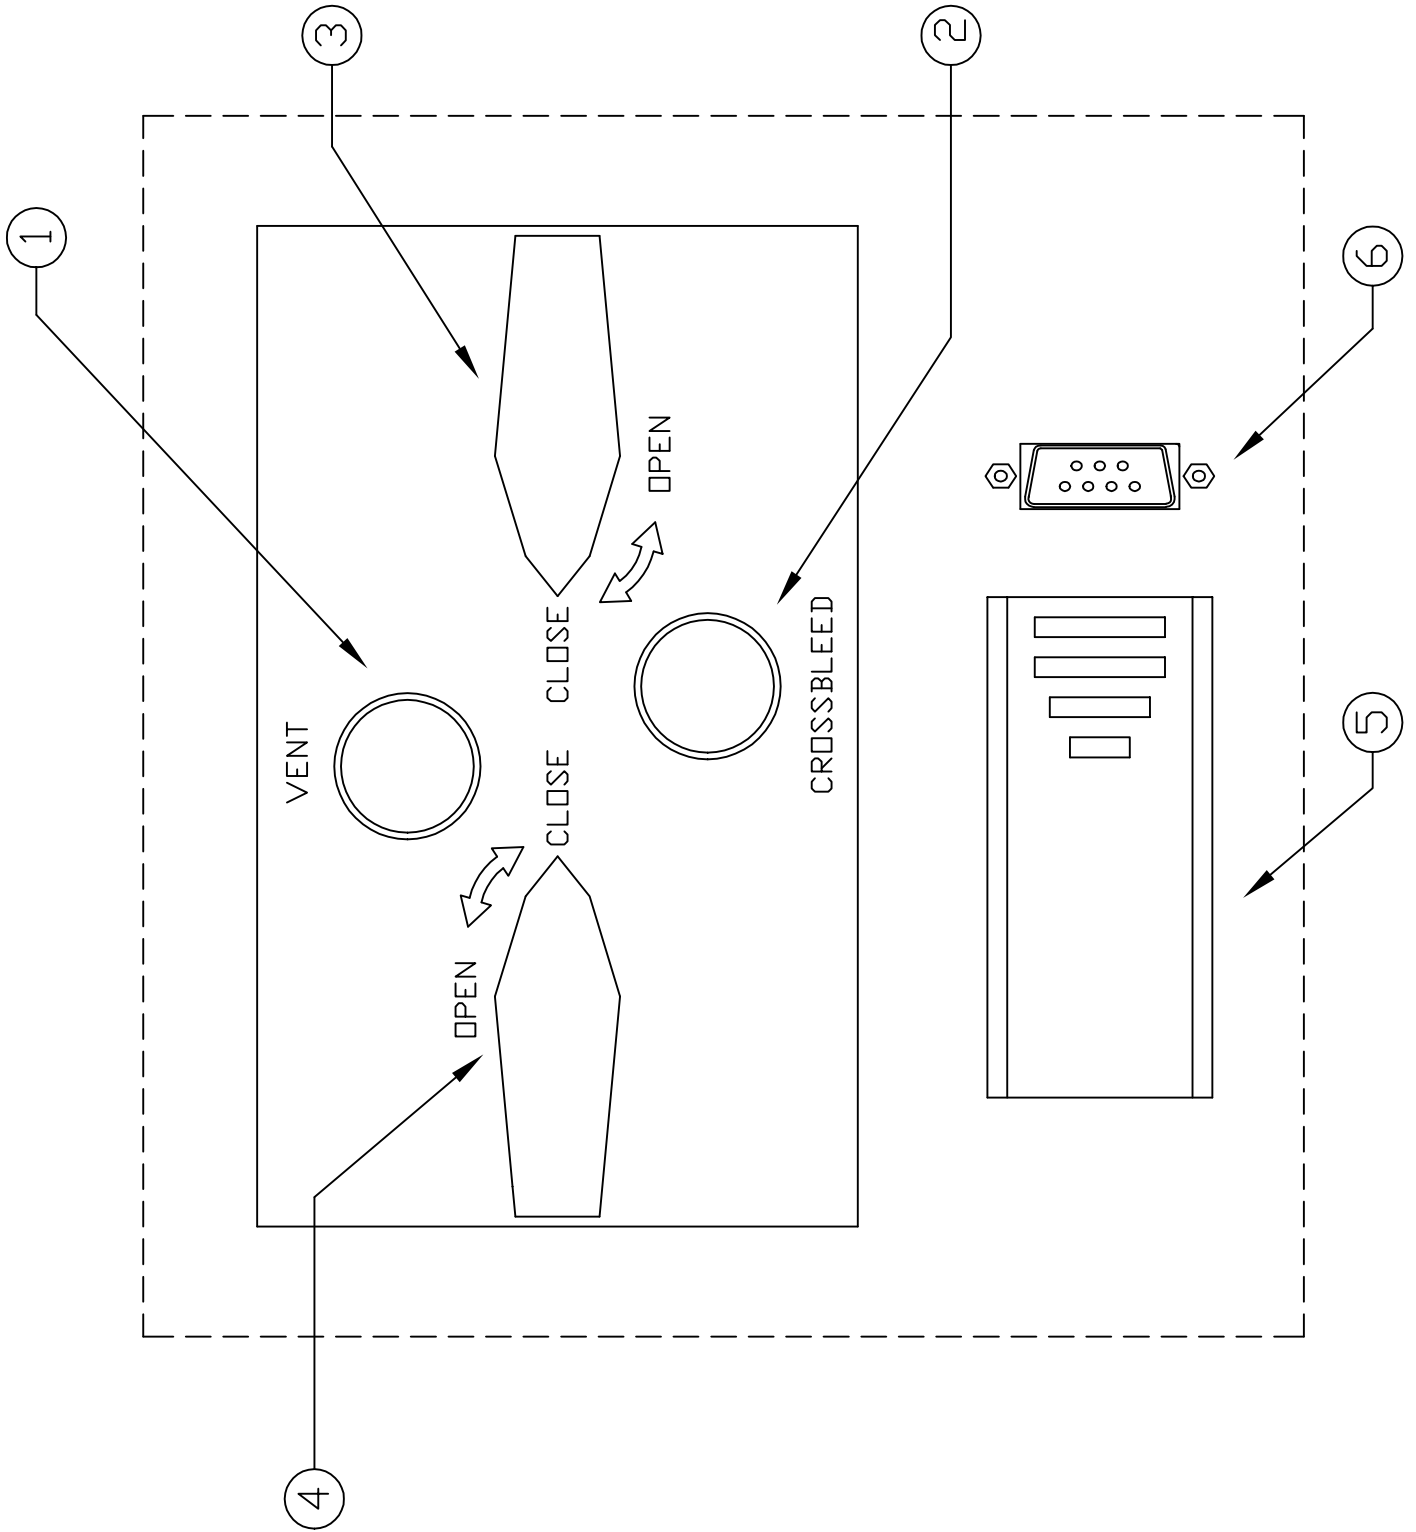

Figure 2.2
The 9 volt battery is accessed by opening the access panel. This battery is used to enable the functioning of the On/Off switch on the Remote unit. If this battery does not have adequate charge, the Remote unit On/Off switch will not operate. This is a 9 volt alkaline battery. It must be replaced once a year during the Calibration operation. The battery must be replaced without power applied to the 6300. Figure 2.2 shows the battery holder (5) with the panel open.
This connector is accessed by opening the access panel. The connector is a standard DB-9 female connector used for a serial RS232 interface. It can be connected directly to the "COM" port of a standard PC to allow communication. This port is normally used for downloading "profiles" from a computer. Other remote communication with the 6300 is also possible through this interface. Figure 2.2 shows the RS232 connector (6) with the panel removed. For more details on downloading profiles, please refer to Section 4. For more details on communication with the 6300, please refer to Section 8.
In the event that the 6300 is in-operable due to a malfunction or due to loss of power, it is possible to vent the Pitot/ Static system manually. Venting implies bringing the pressure on both the Pitot and Static ports back to the ambient pressure. The controls for manual venting are accessible underneath the access panel labeled "Manual Vent". Once the access panel is opened, the controls available for venting are shown in Figure 2.2. The Venting system consists of "Crossbleed" (2) and "Vent" (1) metering valves and two shut-off valves (3) and (4). For instructions on how to use this system, please refer to Section 7.3.